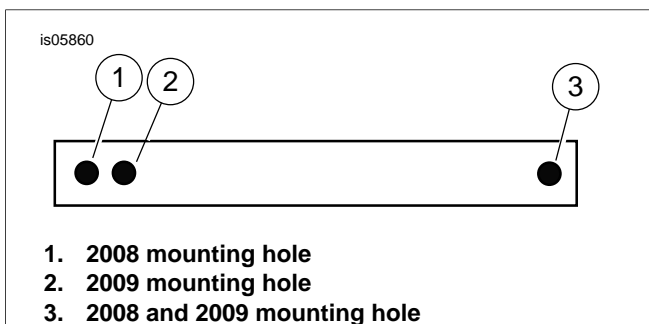

Figure 3. Grabstrap for Kit 53051-09
5. See Figure 3. Install the grab strap behind the saddlebag mounting bracket (4) using the holes shown.